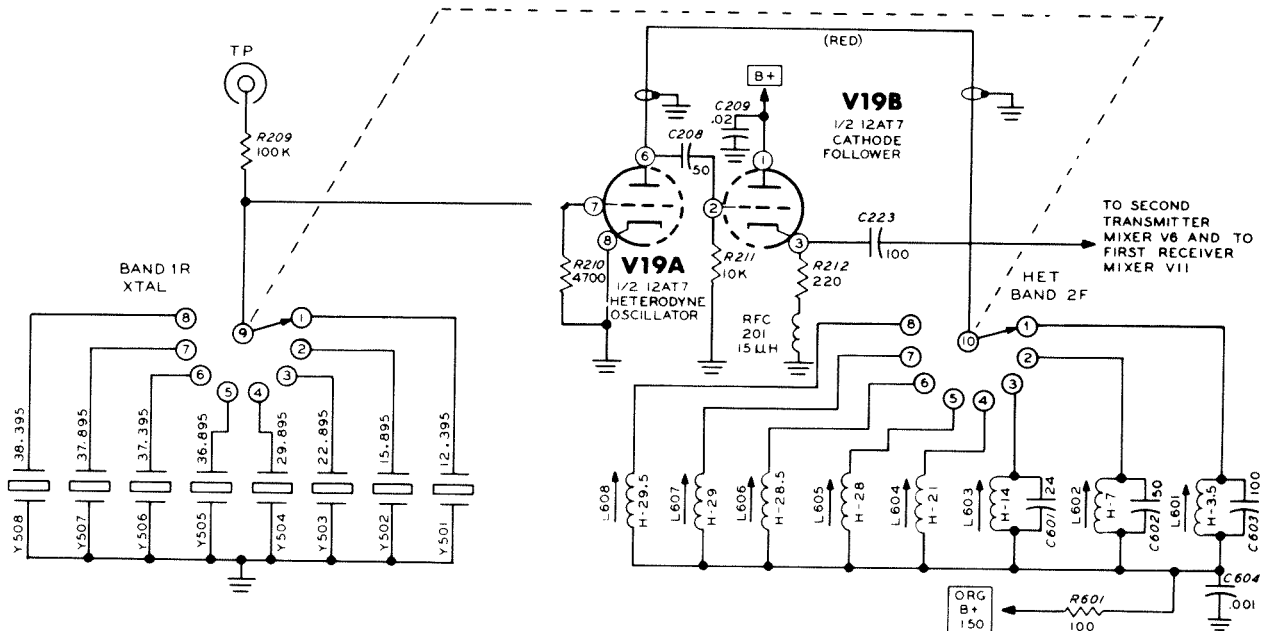

Figure 2-14
**HETERODYNE OSCILLATOR AND CATHODE FOLLOWER (Figure 2-14)**